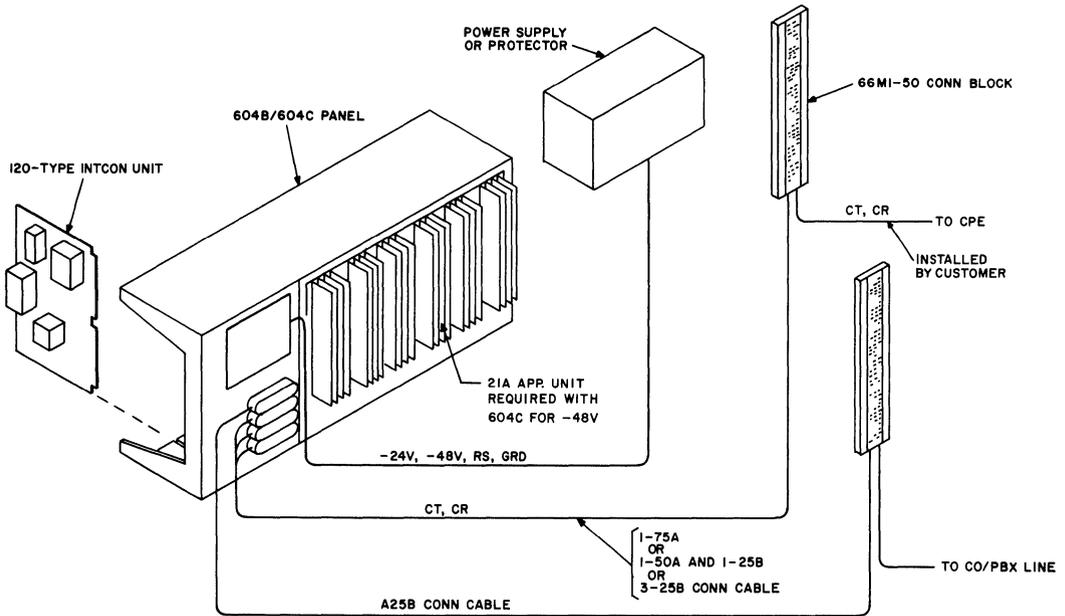

Fig. 3—Block Diagram, PCA STP or C2F Using 604-Type Panel
- Cable, Connecting, A25B—one per 615A panel; one to four per 604C panel (see Fig. 3)
3.04 All connections, except power supply, are made to the panels through the four plugs on the rear of the panel. The wiring arrangement requires that an A25B connector cable be used in P1 (top plug). Any of the cable combinations shown on Fig. 3 can be used to connect P2, P3, and P4.